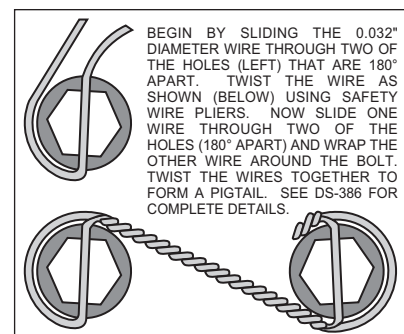

Figure 3. Safety Wire Diagram
- Install the grease seal (7) by pressing into the backside of the hub (5).
- Attach rotor adapter (8) to rotor (9) using six bolts (10). Torque bolts (10) to 180 **in-lb**. Safety wire bolts (10) using standard 0.032 inch diameter stainless steel safety wire as shown in Figure 3. Please refer to Wilwood's data sheet DS-386 (available at www.wilwood.org/ds386.pdf) for complete safety wire installation instructions. **NOTE:** The flat side of the rotor (8) lugs face toward the rotor adapter (9) with the dished side of the rotor adapter (8) facing away from the rotor (9).
- Mount the adapter/rotor assembly (8 and 9) to the hub (5) using six lock washers (11) and six bolts (12). Torque bolts (12) to 22 ft-lb. Safety wire bolts (12).
- Pack the small outer bearing cone (13) with high temperature disc brake bearing grease and install into front of hub (5). Slide the hub/rotor assembly (5 and 9) with outer bearing cone (13) onto the spindle. Secure using stock washer, adjusting nut and nut locking device.
- Install the dust cap (16) onto the hub (5). Friction created by the o-ring (15) on the dust cap (16) keeps it from unscrewing. The O.D. of the existing spindle washer may be larger than the I.D. of the dust cap (16) not allowing it to seat against the hub face. Therefore, use the spindle washer (14) supplied with the kit instead of the stock washer.
- With the bleed screws pointing up, mount the caliper (17) onto the caliper mounting bracket (1) using lock washers (18), bolts (19) and caliper spacer (20) positioned between caliper (17) and the caliper mounting bracket (1). Finger tighten. View the rotor (9) through the top opening of the caliper (17). The rotor (9) should be aligned in the center of the caliper (17). If not, adjust the caliper (17) by using 0.032 inch thick shims (21) placed between the caliper mounting bracket (1) and the caliper (17). Add as many shim washers (21) as necessary to achieve the correct alignment. Always use the same amount of shims on both the top and bottom caliper mounting bolts (19). Finger tighten and recheck alignment, adjust as necessary. Apply red *Loctite*® 271 to bolt threads (19) and torque to 30 ft-lb. Safety wire caliper bolts (19).
- Install the disc brake pads (22) into the caliper (17).
- Secure the disc brake pads to the caliper utilizing cotter pin (23).